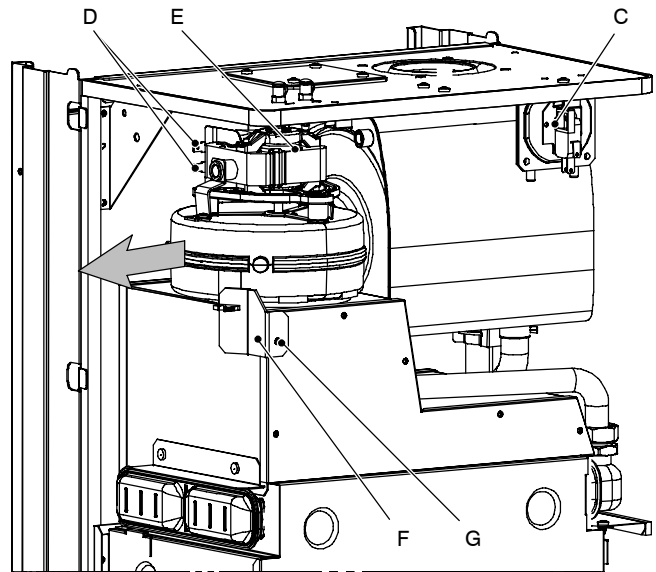

Fig. 78
- 4 Unscrew the screw *F* and remove the bracket *G* (Fig. 78).
- 5 Remove the Fan by sliding it towards left (see the arrow in Fig. 78).